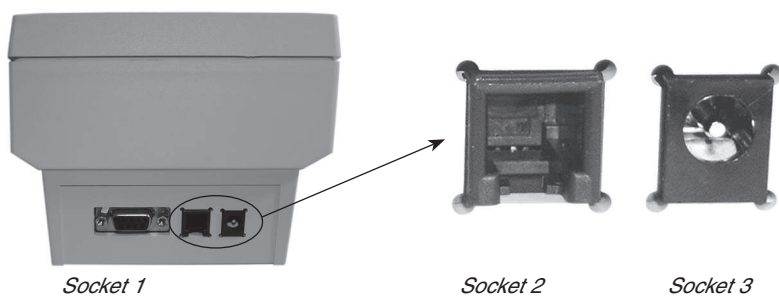

Fig. 3
2. Apply power by inserting the jack plug into socket 3 (page 31, fig. 3).